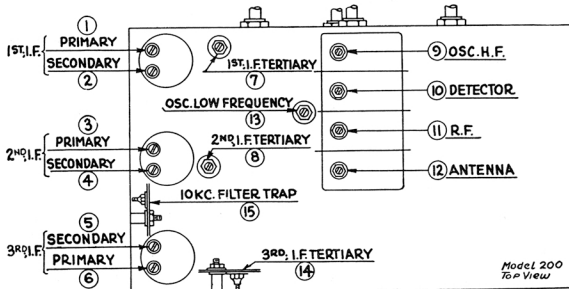

Fig. 28
2. Adjust the 6 I.F. padding condensers ①, ②, ③, ④, ⑤ and ⑥ (see Fig. 28) in the tops of the 3 I.F. cans, for maximum output (minimum meter reading), starting with the compensator or padder at the front of the chassis, and continuing with the adjustments toward the rear of the set. During these adjustments, the output of the signal generator should be regulated to maintain a voltmeter reading of approximately 2 volts.
4. Readjust the 3d I.F. secondary padder ⑤ for maximum output. Now remove the 250 Mmf. Condenser.
5. Readjust the 3rd I.F. primary padder ⑥ for maximum output. Do not touch the grid padder ⑤ again.
7. Adjust the 1st & 2nd I.F. tertiary padders ⑦ and ⑧ for MINIMUM output (maximum voltmeter reading).